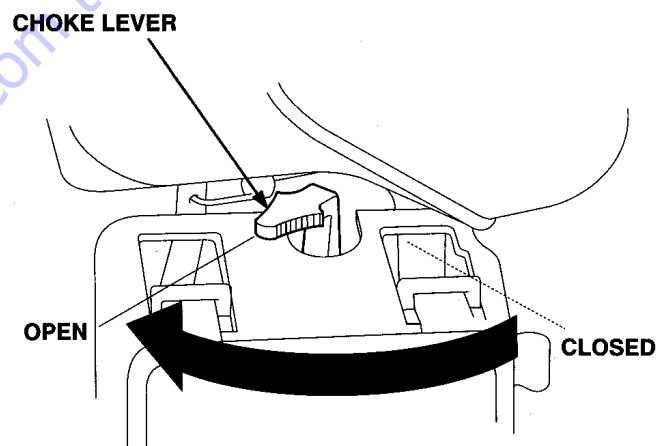

Figure 10. Engine Choke Lever (Open)
3. If starting a **warm** engine, or if the **ambient temperature is warm**, place the choke lever in the **OPEN** position (Figure 10).